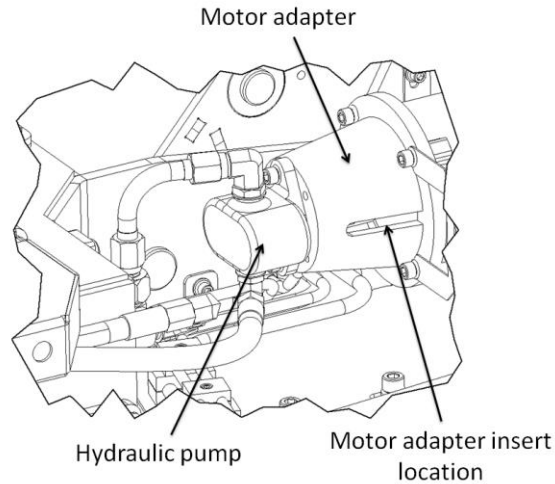

Figure 23 : Motor adapter details
2. Remove the orange plastic insert from the motor adapter (see Figure 23).